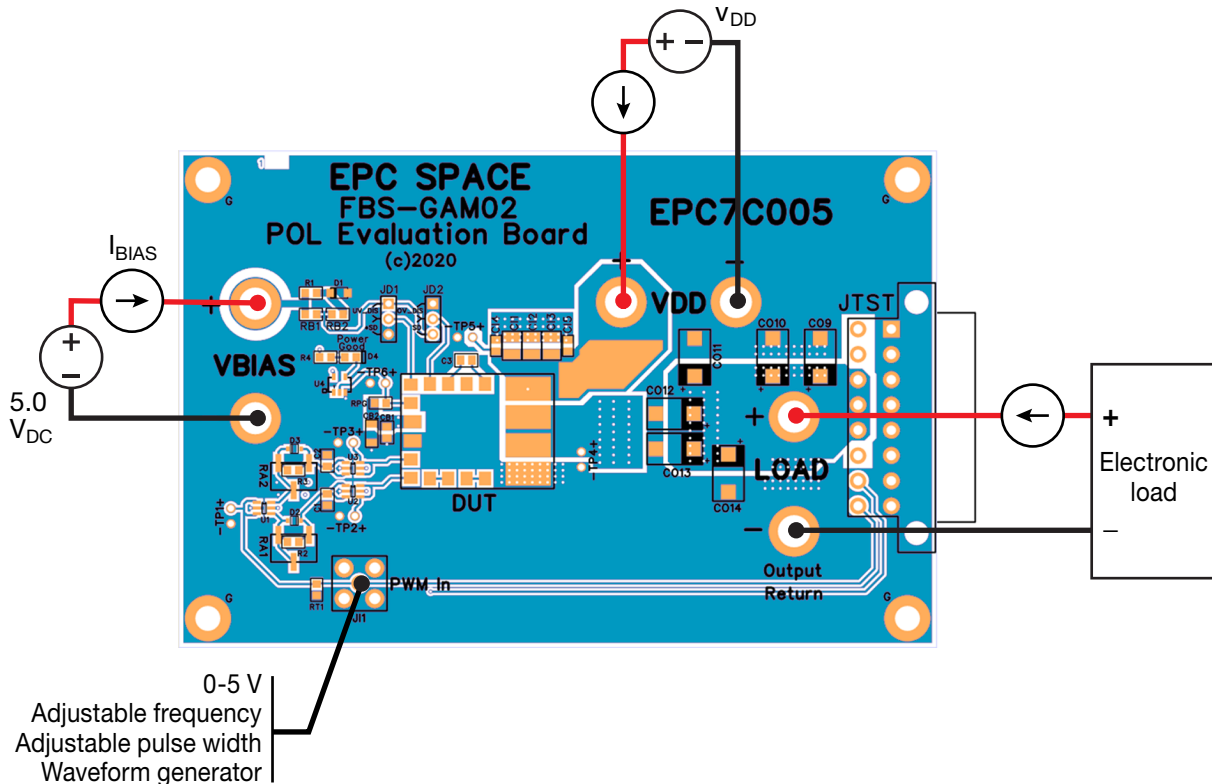

Figure 4. FBS-GAM02 POL Evaluation Board Test Equipment Connections: Conversion Efficiency
Figure 4 shows the recommended connection to/from the Evaluation Board for switching operation.
The following test equipment is recommended to properly evaluate the EPC7C005 Evaluation Board as shown in Figure 4:
With the evaluation board connected to the test equipment as shown in Figure 4, the switching node (SN) waveform may be monitored using the following test sequence: